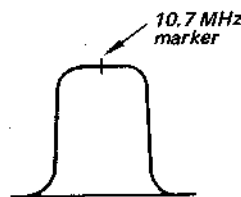

Fig. 3-3. Response curve
2. Turn the core of fm i-f transformer (IFT F1, IFT F2, IFT F3) and discriminator transformer (IFT F4) to obtain the maximum amplitude response curve shown in Fig. 3-3.